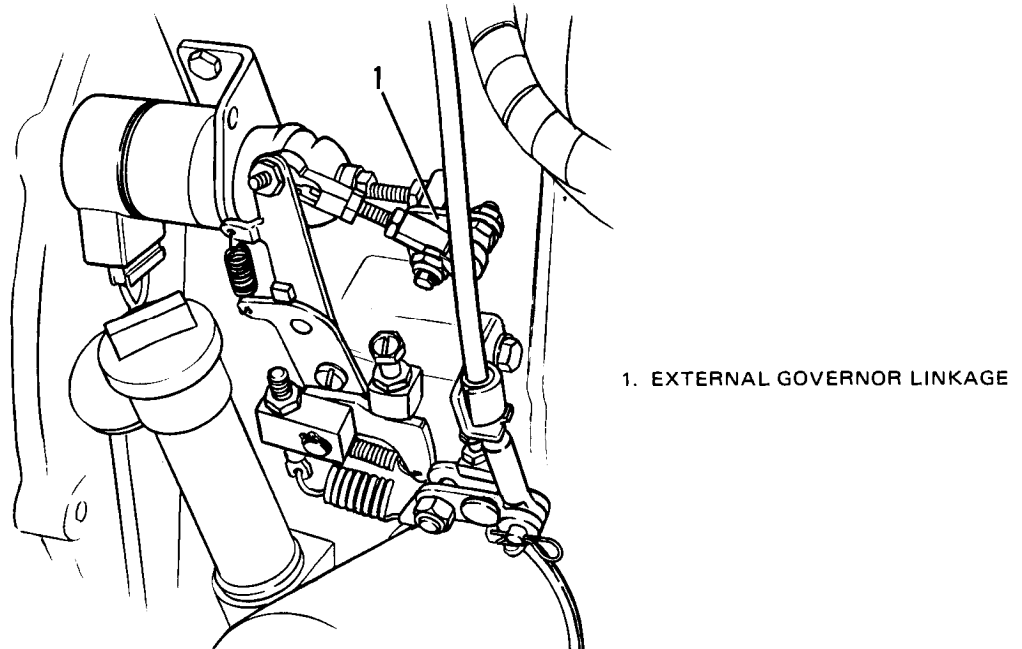

Figure 6-3. External Governor Linkage.
- (6) Remove three screws (12) and washers (13).
- (7) Position external arm of governor linkage (1, Figure 6-3) to midpoint of travel and remove injection pump (14, Figure 6-2) and shims (15).
- (8) Do not remove actuator or fork unless damaged, refer to TM 05926B/06509B-12/TM 5-6115-615-12/NAVFAC P-8-646-12/TO 35C2-3-386-31 manual, paragraph 4-44.
- (1) Position external arm of governor linkage (1, Figure 6-3) to midpoint of travel and place injection pump (14, Figure 6-2) and shim (15) on engine.
- (2) Check that injection pump rack is caught between fork on governor linkage by holding fuel injection pump and rotating governor linkage fully counterclockwise. Rotate fuel pump and feel for engagement in both directions. Repeat with governor linkage rotated fully clockwise.
- (3) Install and tighten three capscrews (12) with washers (13).
- (4) Set injection pump timing, refer to step e, Adjustment.
- (5) Apply sealing compound (Table 2-2, item 5) to capscrews (12) and tighten securely.
- (6) Recheck injection pump timing, refer to step e, Adjustment.
- (7) Apply sealing compound (Table 2-2, item 8) to edges of injection pump (14) to seal.
- (8) Install fuel injection line (4).
- (9) Secure injection line (4) to adapter (5) with screw (1), washer (2) and clamp (3).
- (10) Install supply line (7).
- (11) Install new return line (9) and secure with new tie wraps (6) and clamps (8).
- (1) Connect a high pressure timing pump (refer to Table 2-1) to the injection pump. High pressure pump outlet is connected to injection pump supply and injection pump return line is connected to return tank on pump.
- (2) Start timing pump and rotate external linkage (1, Figure 6-3) to the fuel injection pump to the fuel off position (fully clockwise). Rotate linkage counterclockwise (4-5 mm). Fuel should be flowing from the return line.
- (3) Rotate engine slowly (clockwise, viewed from front flywheel) while observing the flow from the fuel return line.
- (4) When fuel stops flowing from return line (there will be several drops of leakage), stop rotating the engine.
- (5) Rotate the engine back (counterclockwise, viewed from front flywheel) until fuel is flowing from the return line.
- (6) Very slowly rotate the engine (clockwise, viewed from front flywheel) and observe fuel return line.
- (7) Stop rotating engine when fuel stops flowing from the return line.